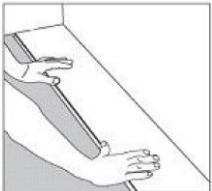

Figure 1
- Starting from the **Left** with the tongue facing the wall, carefully place the first board in place (**Figure 1**).